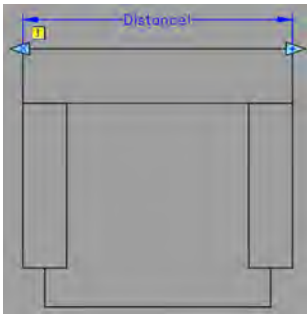

FIGURE 7.10
Step 1. Open the Parameter tab on the palette and pick the Linear parameter. That, after all, is the way scale works, by linearly scaling up an object. First, pick the upper left corner start point, then pick the upper right corner endpoint of the chair (like adding a horizontal dimension). The result is shown in Figure 7.10. Note that a yellow exclamation point is seen as a reminder that no action has yet been added to this new parameter.
Another useful feature you can try is called *Value Set*. Add a linear parameter and action to the door (exactly like Distance 1 in Figure 7.10). Then, while Distance 1 is selected, go to the Properties palette, Value Set category, and for the Dist type on the left side, select List on the right.